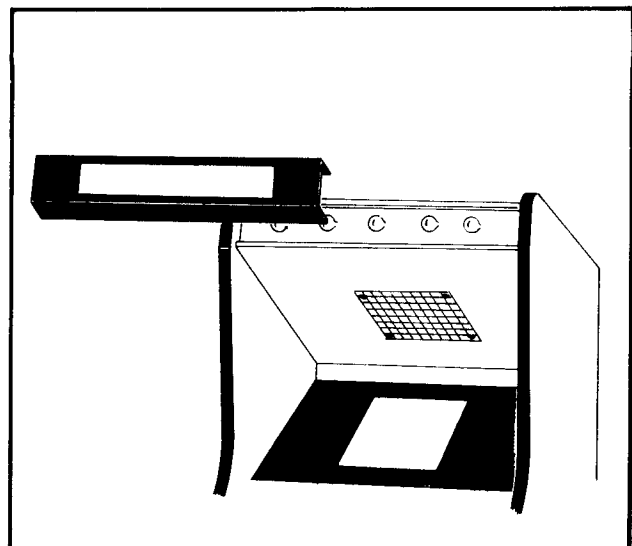

Figure 23 Removing attraction panel — Mini game
2. **MINI MODEL:** See Figure 23.